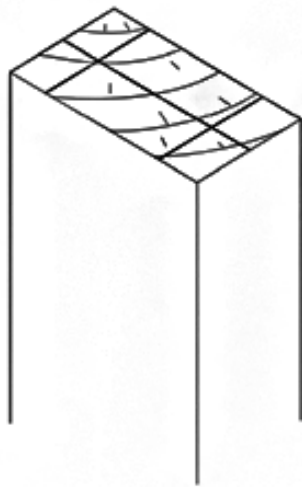

Fig. 5
- 6 Fig. 5 shows the end of a piece of wood. Two holes will be drilled at the centres shown.
Add to Fig. 5 to show a drilling jig that could be used to make sure that the holes are drilled accurately.